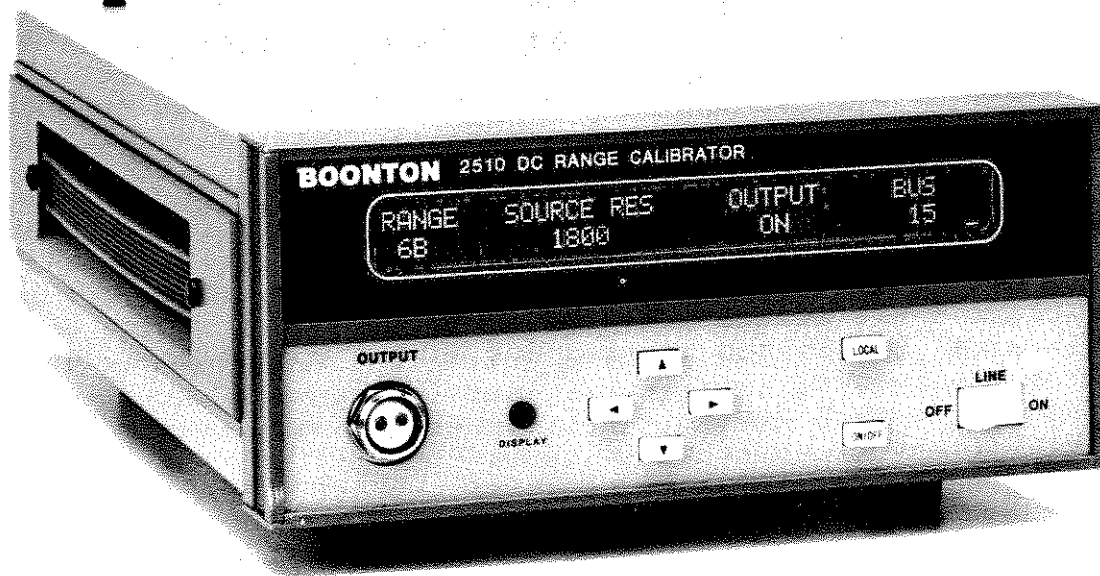

Figure 1-1. 2510 Photo
**1-1. INTRODUCTION.** This manual provides information on specifications, installation, operating instructions, applications, theory of operation, maintenance (including performance verification), parts list, and schematics for the 2510 DC Range Calibrator. Refer to **Figures 1-1 and 1-2.**